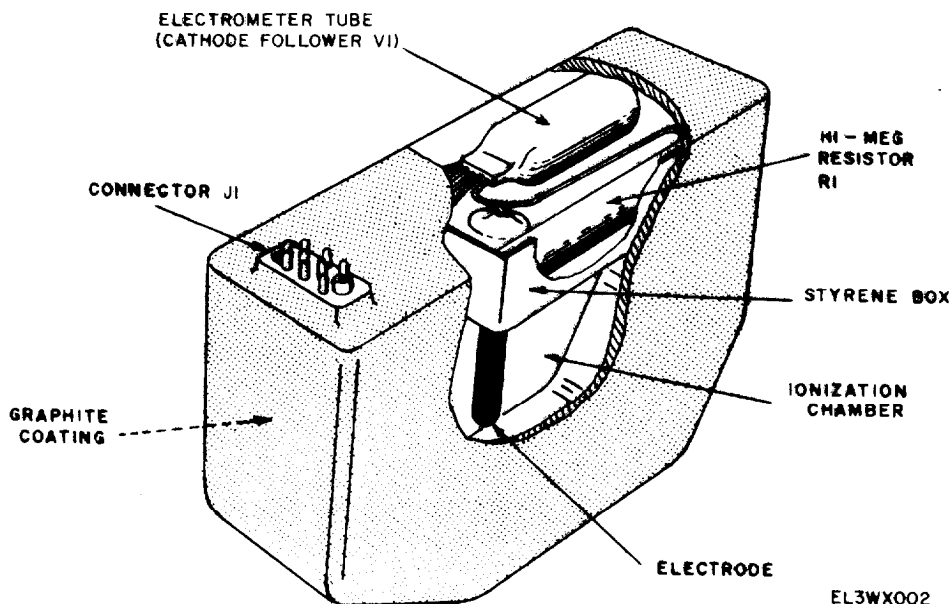

Figure 2-2. Detector assembly.
a. The detector assembly (fig. 2-2) is made of cast epoxide resin and is hermetically sealed. It consists of an air filled ionization chamber; an electrode; and an electrometer tube (cathode-follower V1) and high megohm resistor R1, both mounted in a styrene box; and a connector (J1). The inside of the ionization chamber is coated